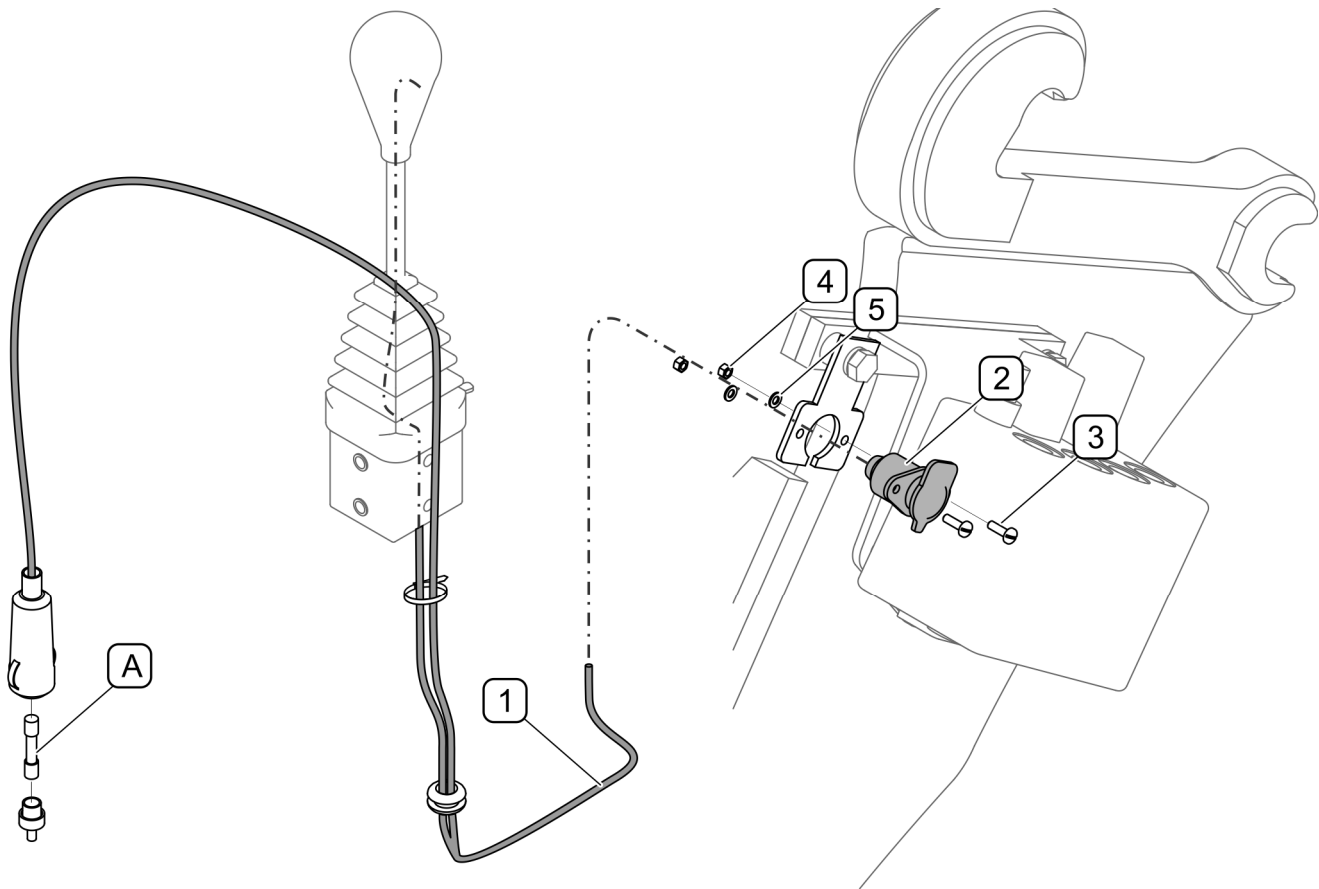

FIGURE 4.10 Power supply connection
(1) - electrical wiring harness with a plug; (2) - 3-pole socket (3) - M5x20 bolt; (4) - M5 nut; (5) - 5,5 washer; (A) - 10A fuse;
Connect electrical wiring harness (1) connected to the control lever to electric socket (2) and attach to the bracket on the hydraulic manifold (FIGURE 4.10). Connect the wiring harness plug (1) to the 12V cigarette lighter socket. The electric circuit is used for controlling the hydraulic solenoid valve located at the front on the loader arm frame.